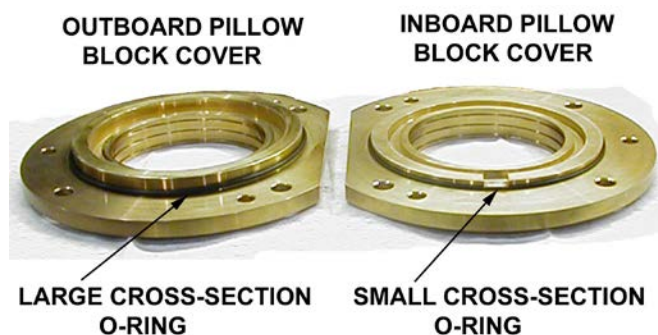

Figure 5-10 Main Bearing Installation Details
1. Place inner race of liquid end bearing in a bearing heater (Figure 5-10) or clean heated oil bath, and heat to approximately 230°F (110°C). Do not use a torch to heat inner race, as this will damage the race.
1. Place bearing inner race in a bearing heater (Figure 5-10) or heated clean oil bath, and heat to approximately 230°F (110°C). Do not use a torch to heat the inner race, as this will damage the race.